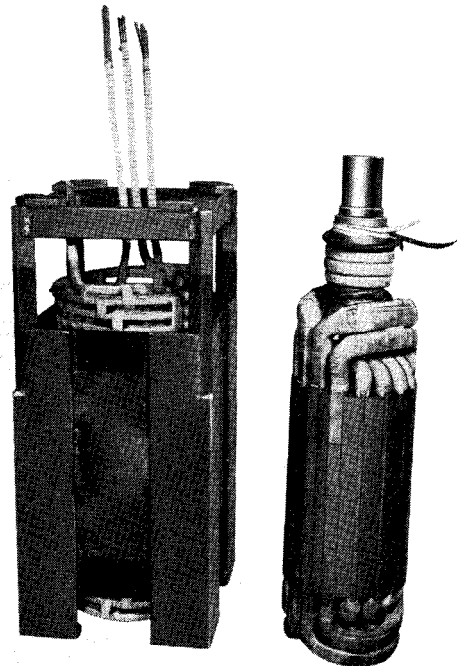

Fig. 14. Rotor and Stator
6. With the top plate and worm housing assembly removed, the rotor may be removed as follows: (See Fig. 14).